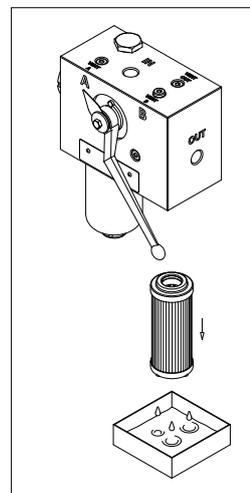

fig. 12
- (Fig. 12) Pull the filter element out. Clean the cavity in the housing, the tap and the bowl. Check them for damage